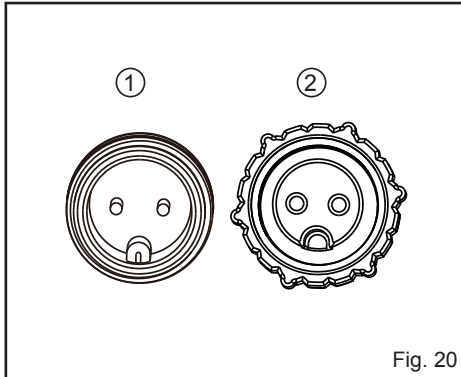

Fig. 20
- First connect the extension cable to the power adapter. Align the notch (①) on the extension cable with the groove (②) on the adaptor and turn the locking sleeve (③) clockwise to lock into place (Fig. 20 & 21).
- 2) Then connect the base station's power cord to the extension cable. Align the notch (①) on the power cord with the groove (②) on the extension cable and turn the locking sleeve (③) clockwise to lock into place (Fig. 20 & 21).